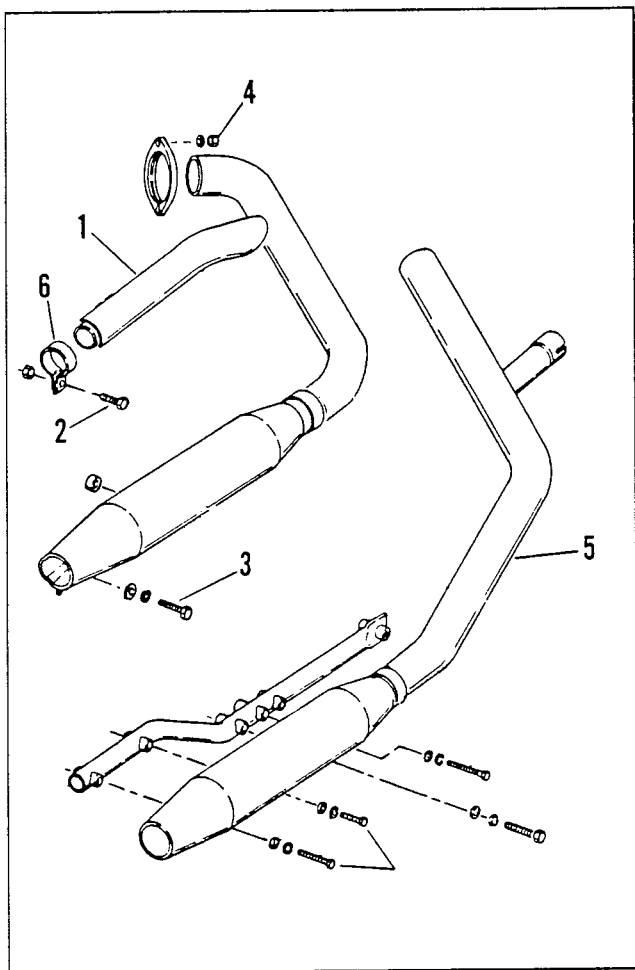
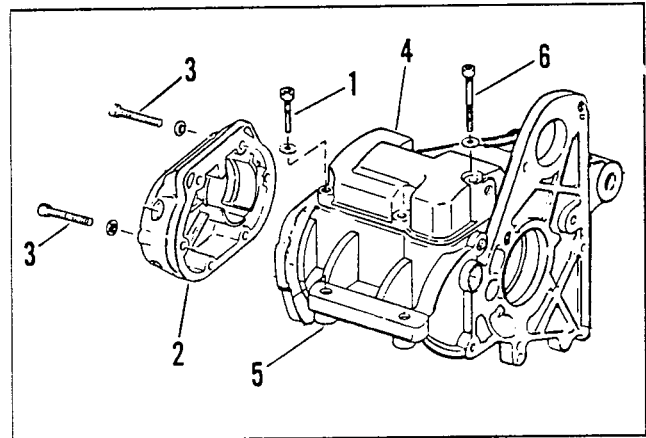

Figure 1. Exhaust System Assembly
Figure 2. Transmission Assembly
5. See Figure 1. Remove cross over pipe shield (1).
6. Loosen crossover pipe clamp bolt (2).
7. Remove muffler support bolts (3), two bolts at front muffler and two bolts at rear muffler.
8. Loosen front exhaust pipe clamp stud nuts (4) at cylinder head.
9. Remove rear exhaust pipe clamp stud nuts at cylinder head. Remove rear exhaust pipe (5) as an assembly.
10. See Figure 2. At transmission top cover remove two right side and center front mounting screws (1).
15. Remove right front oil tank mounting bracket bolt (2), mounting bracket (3), and rubber mount (4) as an assembly.
16. Lower tank as far as space permits. Remove oil tank rear mounting bracket (5) with rubber mounts (6) by removing nuts (9).
21. See Figure 2. on 1987-1988 models remove right side transmission cover bolts (3) and cover (2). Leave clutch cable attached and lay on muffler protected by cloth or cardboard. On 1986 models remove clutch release lever and shifter shaft plug.